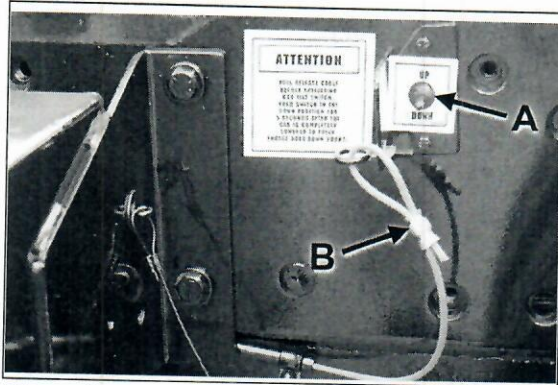

Figure 2
In most cases, the cab tilt control switch is located on the left-hand frame rail (Figure 2). The safety prop release cable is located on the left-hand rail, within reach of the tilt switch.
6. After the safety prop has dropped over the cylinder, move the tilt control switch to the DOWN position (Figure 2, page 14) and lower the cab slightly until the safety prop rests fully on the top of the tilt cylinder (Figure 3).